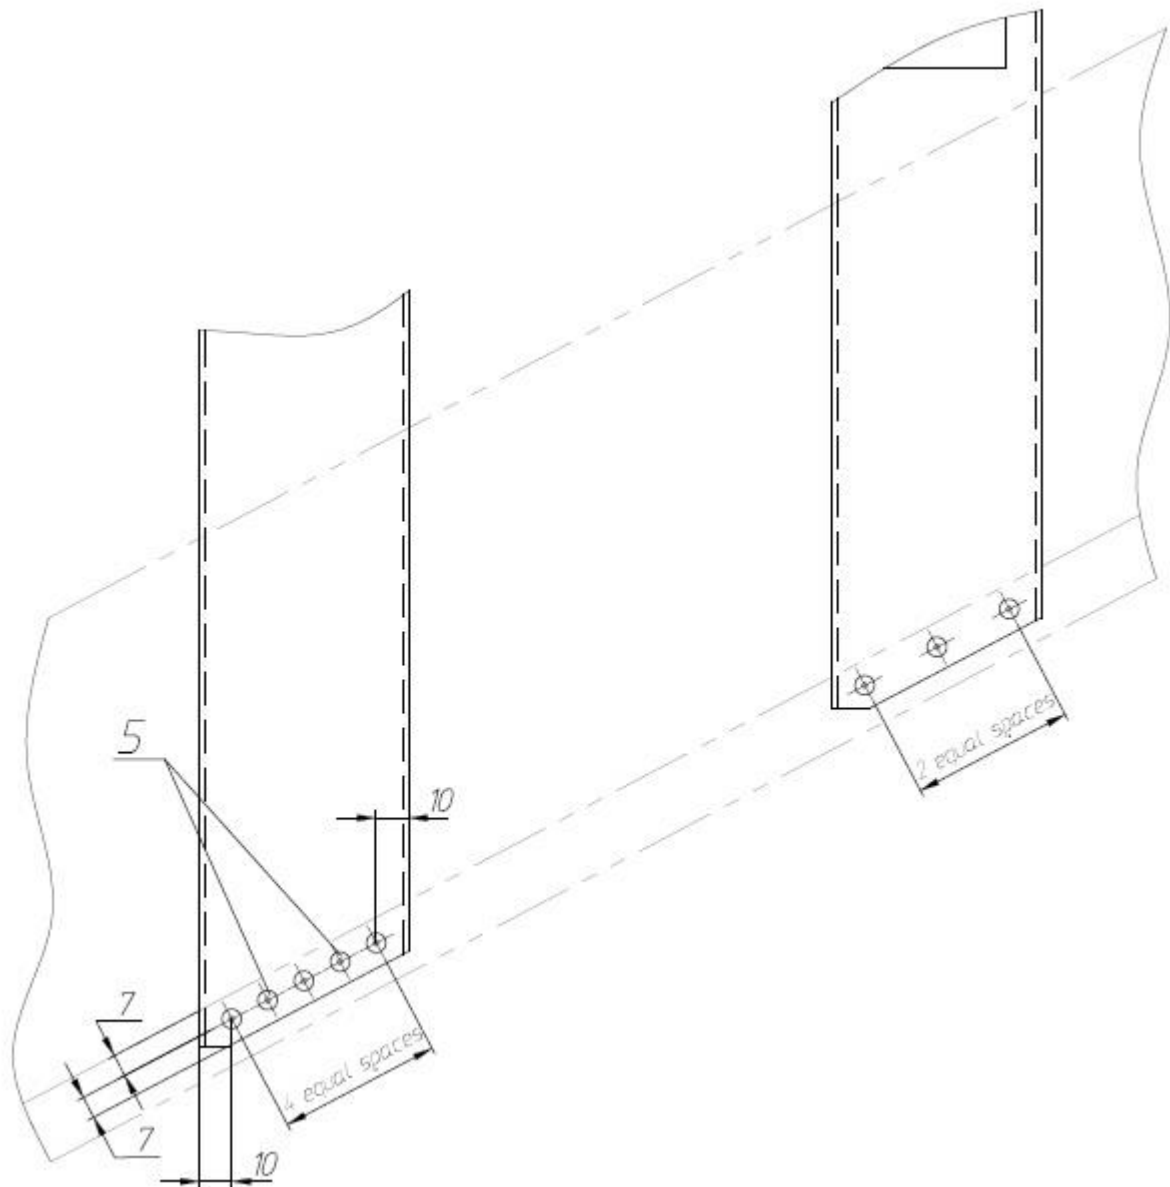

Fig. 2
- 3.9) Drill holes (5, fig.2) with \varnothing 3.1 mm drill bit and install pop-rivets 3-8.